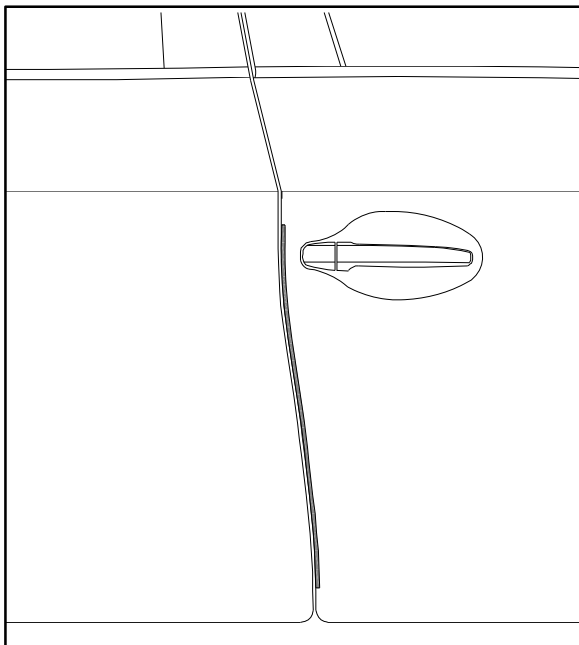

Fig. 1-17
- (r) Carefully close front door and visually ensure DEG has sufficient clearance from adjoining body panels. Carefully remove template from door and retain for use on driver side. (Fig. 1-17)